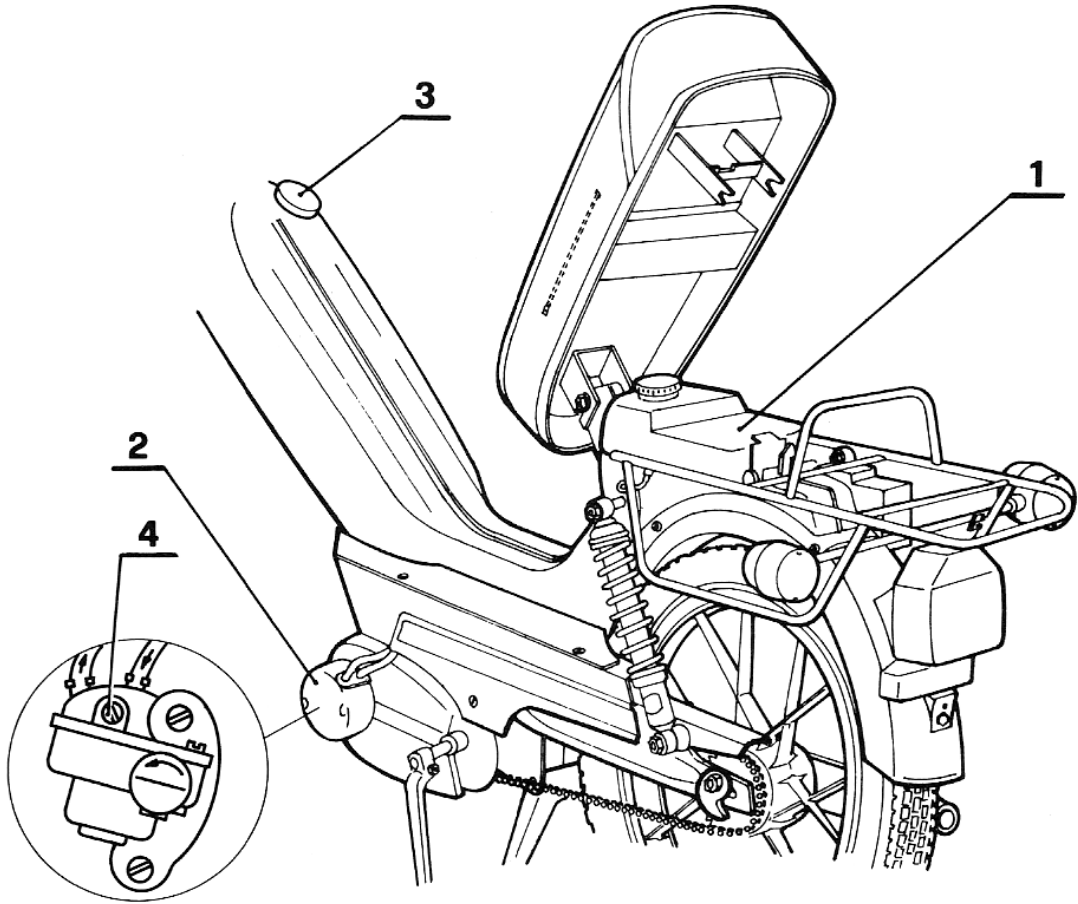

Fig. 5
Models TOMOS Automatic SILVER BULLET A3 SP and SILVER BULLET A3 GM are equipped with oil tank (Fig. 5/1) and oil pump (Fig. 5/2). For this reason the fuel tank (Fig. 5/3) must be filled with regular gas and the oil tank (Fig. 5/1) with the twostroke oil.
- Unscrew vent screw (Fig. 5/4) on the oil pump and wait until oil from the tank under the seat (Fig. 5/1) flows to the pump. The screw is then screwed on.
- Pour approx. 1 l (1/4 gall) gas mixture in the ratio of 1 : 50 (2% oil) into the fuel tank and start the engine. Let the engine run for approx. 5 min so as to make the pump (Fig. 5/2) push oil to the engine.